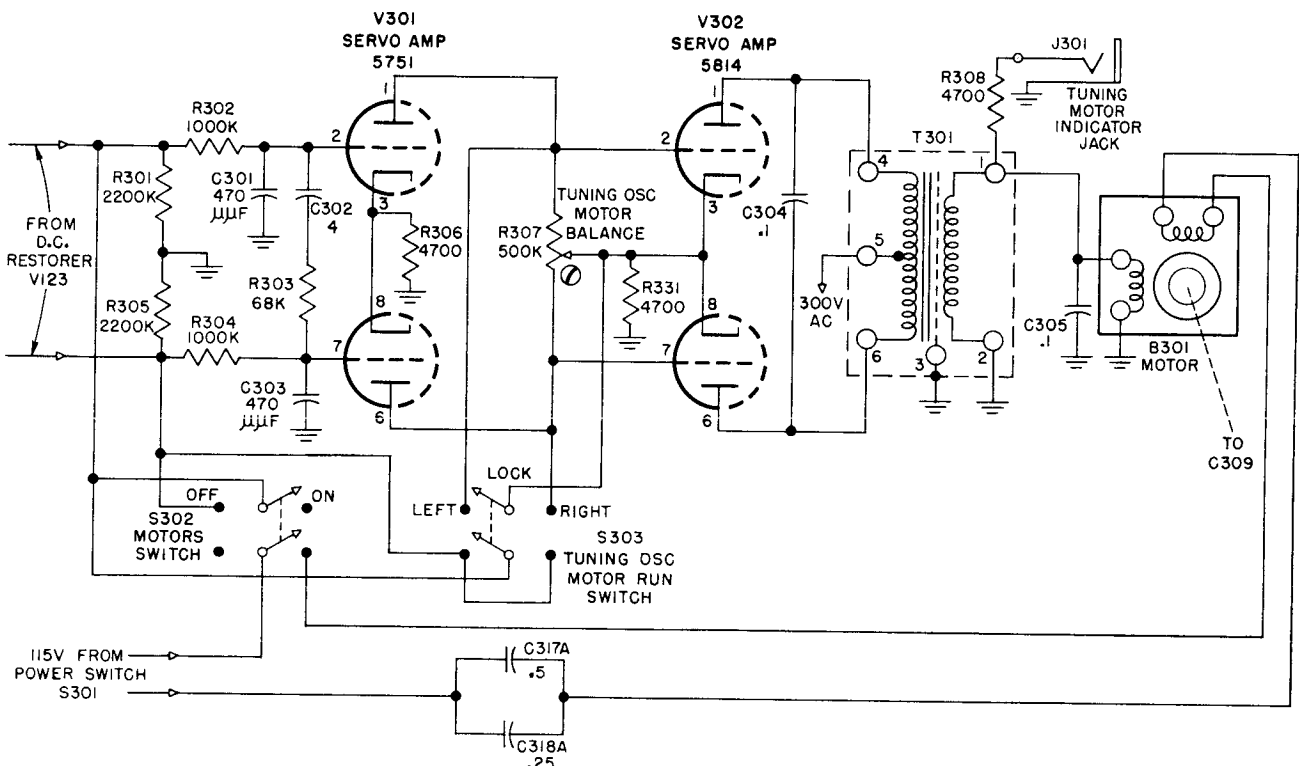

Figure 2-13. Servo Amplifiers V301 and V302 and Motor B301, Simplified Schematic Diagram
The voltage appearing at the output of DC restorer V123 is applied to the motor through servo amplifiers V301 and V302. See Figure 2-13. If this voltage is zero the conduction in the two sections of both servo amplifiers V301 and V302 will be equal. Both amplifiers produce a pulsating current by virtue of the 60 cycle AC supply of 300 volts applied to the plates of V301 and V302. The pulsating current, flowing through transformer T301 will be equal on both sides of the center tap, resulting in the complete cancellation of all magnetic effects. Therefore, if there is zero voltage at the output of DC restorer V123, motor B301 will not turn.
(5) SERVO AMPLIFIERS, V301 AND V302. (See Figures 2-13 and 7-8.)—DC restorer V123 is coupled to servo amplifier V301, a 5751 twin triode, which functions as a voltage amplifier. Servo amplifier V302, a 5814 twin triode, is used as a power amplifier and feeds one field coil of motor B301 through transformer T301.